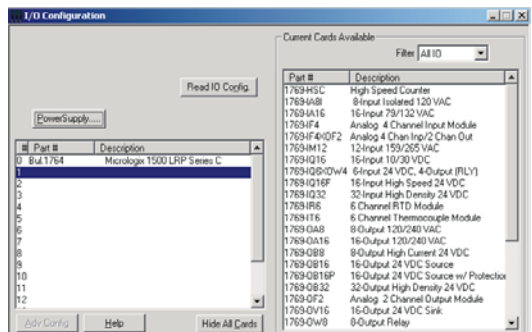

FIG. 4-3 I/O CONFIGURATION DIALOG BOX
- Step 2. From the I/O Configuration dialog box, under “#” column heading click on #1 or the next open slot number available. (See Fig. 4-3)